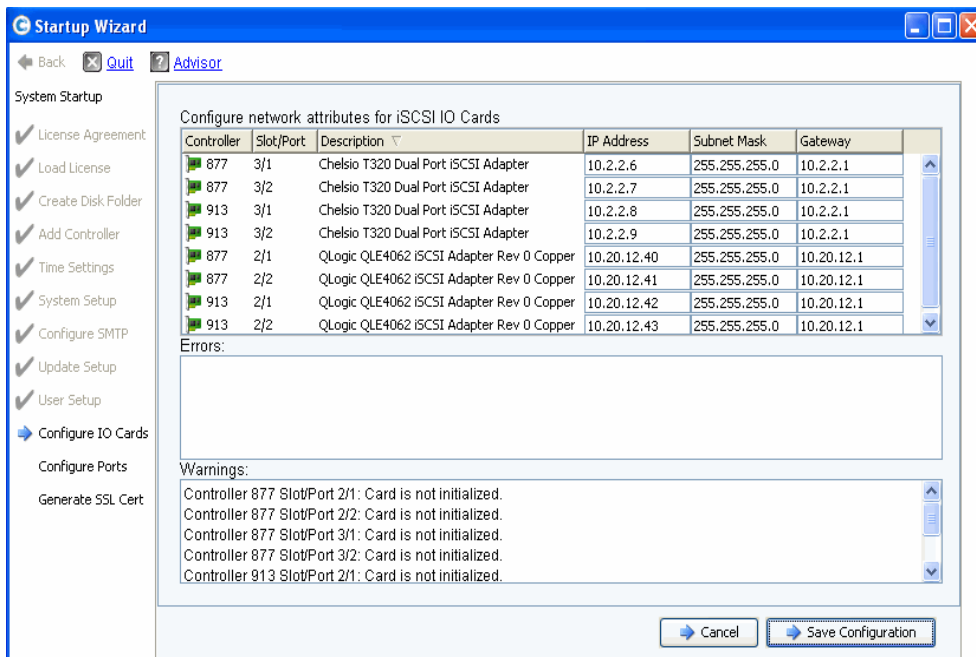

Figure 18. iSCSI IO Card Configuration Warnings
- If there are errors and/or warnings, they are displayed as shown Figure 18 on page 24.